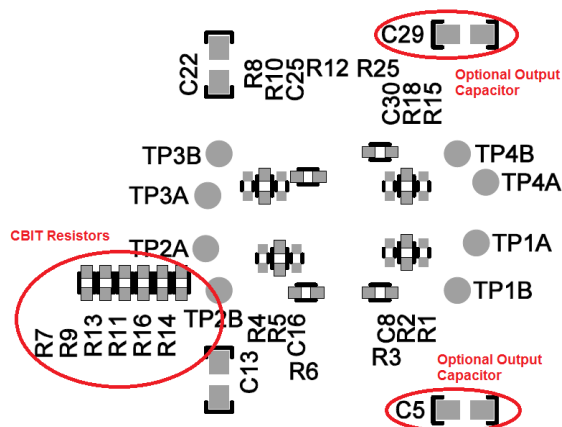

Figure 3. C Bit Resistors and Optional Output Capacitors for V_{OUT1} and V_{OUT4}
2. Set the associated C bit pins high or low as per Table 1 by opening and populating the appropriate resistors. C1, C2 and C3 are set high by populating R7, R11 and R14 respectively. C1, C2 and C3 are set low by populating R9, R13 and R16 respectively. The C bit resistors are 0603 resistors located on the bottom of the board as shown in Figure 3.
- The output capacitance requires a minimum of 22μF for each 1A of output current. Each output has an optional 0805 capacitor on the bottom of the board. Add the required amount of capacitance to C5 and/or C29 (shown in Figure 3) for V_{OUT1} and V_{OUT4} respectively, if needed.